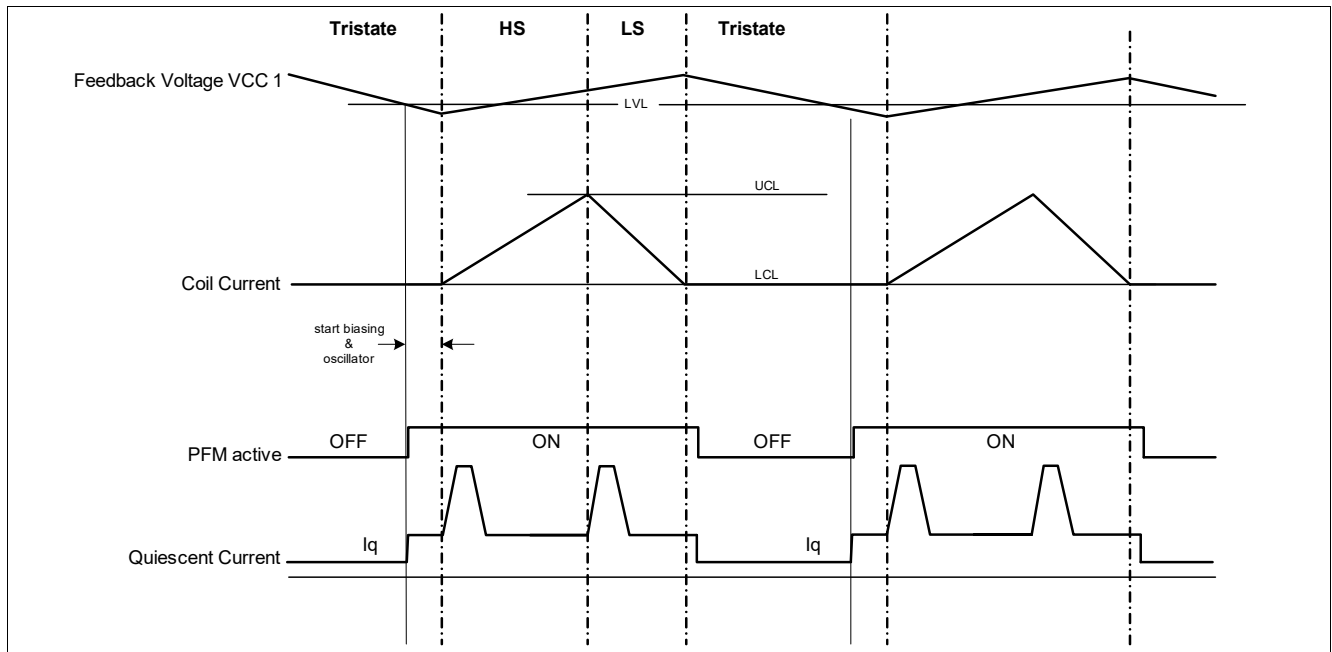

Figure 9 Typical PFM timing diagram
- PFM Mode (Pulse Frequency Modulation): This mode is activated automatically when the SBC Stop Mode is entered. The PFM Mode is an asynchronous mode. PFM Mode does not have a controller switching frequency. The switching frequency depends on conditions of the Buck regulator such as the following: input supply voltage, output voltage, output current and external components. A typical timing diagram is shown in **Figure 9**. The Buck converter in PFM Mode has a tolerance of $\pm 4\%$. The transition from PFM mode to PWM mode is described in **Chapter 6.2.2**.